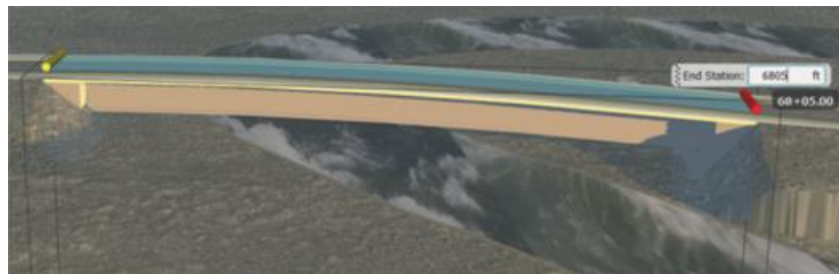

FIGURE 16
2. Drag the bridge gizmo to a new location to change the length of the bridge. Alternatively, you can type a new station value for the beginning or ending station and press <Enter>, as shown in Figure 16.